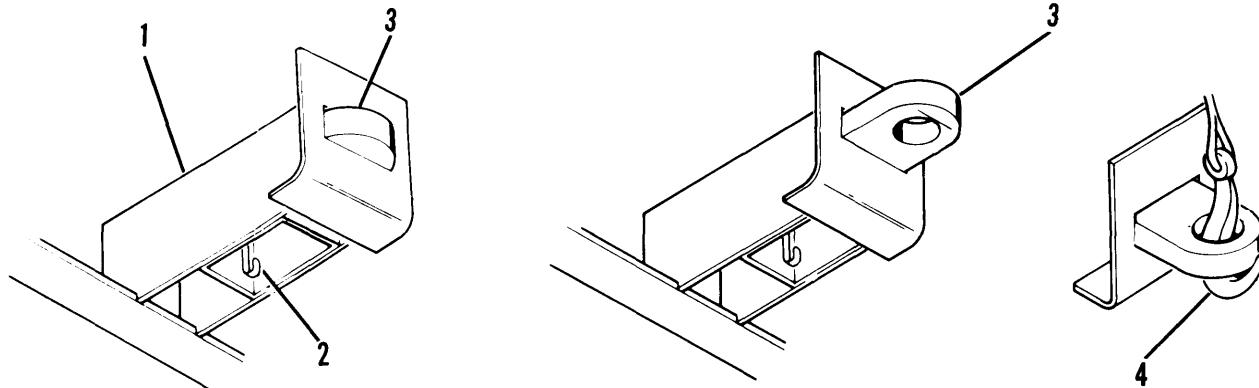

Figure 2-29. Slinging
a. Pull the latch (2, fig. 2-29) down and hold; push out on bolt at rear of lifting eye.
b. Pull the lifting eye (3) out from the housing as far as it will go.